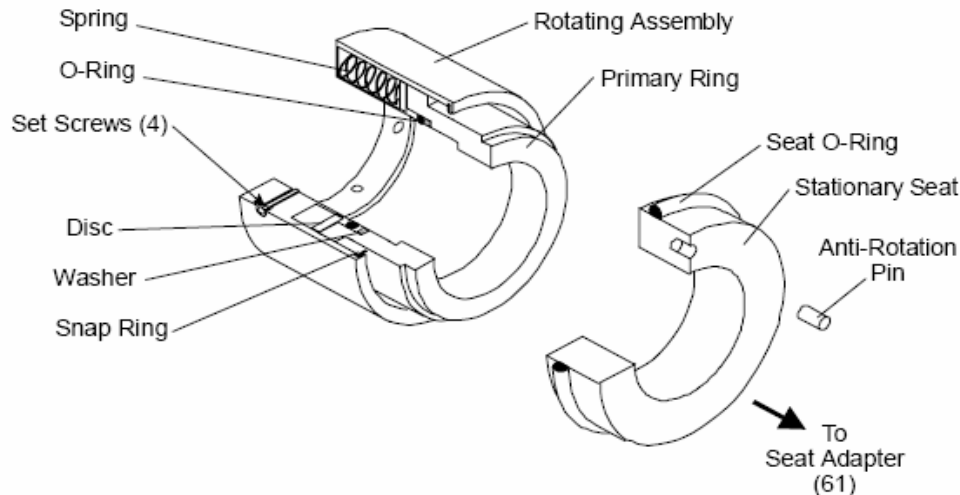

Figure 2 – Mechanical Seal (12) Details
1. Remove external tubing (30) from pump by loosening tube fittings (29) or other fittings that may be installed.
2. Remove outboard bearing retainer bolts (8) and outboard bearing retainer (69) from outboard cover (21).
3. Remove outboard cover (21) by removing cap screws (6). Seal seat adapter (61) with seal stationary seal will come out with outboard cover (21).
4. Remove seal seat adapter (61) from outboard cover (21). Remove back up ring (35), if pump is 250 size, and O-ring (34) from seal seat adapter. Remove O-ring in ID of seal seat adapter. Remove back up ring (20), if pump is 250 size, and O-ring (3) from outboard cover (21).
5. Loosen set-screws holding the mechanical seal (12) on power rotor (10). See Figure 2 below. Slide mechanical seal (12) off power rotor. Remove shim (23) and retaining ring (22) from power rotor (10) shaft.
10. Disassemble power rotor as below see Figure 2 for mechanical seal details:
- a. With a flat blade screwdriver, carefully remove outer and inner Truarc retaining rings (15) located on both sides of bearing (14) from grooves of power rotor (10)
- b. Sealed ball bearing (14) is assembled to power rotor (10) with a light press fit. Ball bearing (14) may be removed by using a bearing puller or a vertical arbor press. When using press, two pieces of key stock are to be placed through openings of spacer (13) underneath ball bearing (49) on both sides of power rotor shaft. Key stock should be long enough to support power rotor (10) as it is placed in press. Press ram is to be positioned against power rotor (10) coupling end face. Gently press power rotor (10) through ball bearing (14). Ensure power rotor (10) does not fall to floor once ball bearing (14) is off of its diameter.
- c. Remove spacer (13) and seat adapter (61) with mechanical seal stationary seat from power rotor (10), Remove stationary seal seat and O-ring from inside of seal seat adapter and remove O-ring (34) and back-up ring (35), if pump is 250 size, from stationary seat (61) OD.
- d. Loosen the set-screws on mechanical seal (12). See Figure 2. Rotate seal and slide off shaft of power rotor (10).
11. Remove inboard cover (4) from case (1) by removing cap screws (6) or (63) if pump is a 187 or 200 size "K" mount type.
12. Remove O-ring (3) from inboard cover (4) and back up ring (20) if pump is 250 size.
13. If pump is a 250 size or a 187 or 200 size with a C –face mounting, remove shoulder bolt (40) from inboard cover (4).
14. Remove bushing (5) from inboard cover (4).
15. Remove housing (2) from case (1) through suction end and remove O-ring (3) and back up ring (2), if size 250.
1. Install O-ring (3) in groove in inboard cover (4). If pump is 250 size, install back-up ring (20) in onboard cover (4).
2. Install bushing (5) in inboard cover (4). If pump is 250 size or 187/200 C-face version, be sure to line up groove in bushing (5) with hole in inboard cover (4) and install shoulder bolt (40) in inboard cover (4). Snug up shoulder bolt.
3. Assemble inboard cover (4) into case (1) using bolts (6) or (63) if pump is 187/200 size K-mount type. Be sure that seal return drain (29) is facing vertically up. Torque bolts to value in torque table 3.
4. Install housing (2), O-ring end first, into suction side of case (1) until it butts up against stops on inboard cover (4). Idler bores in housing (2) must be installed approximately horizontal with respect to the centerline of the pump.
5. Assemble Power rotor (10) and mechanical seal (12) as follows. See Figure 2 mechanical seal detail:
- a. Install mechanical seal (12) rotating assembly on power rotor (10) shaft until it contacts rotor balance piston. Tighten set screws.
- b. Install O-ring (this O-ring comes with the seal) in groove on the ID of seal seat adapter (61) and install O-ring (34) in groove on OD of seal seat adapter (61). If pump is 250 size, install back up ring (20) in groove on OD of seal seat adapter (61)
- c. Install mechanical seal (12) stationary seat in seat adapter (61) ensuring that anti-rotation pin is properly engaged.
- e. Install assembled seal seat adapter (61), with stationary seat, to power rotor shaft in contact with to mechanical seal rotating face.
- f. Install spacer (13) on power rotor (10) shaft behind seal seat adapter (61) and then install inner truarc ring (15) in groove in power rotor (10).